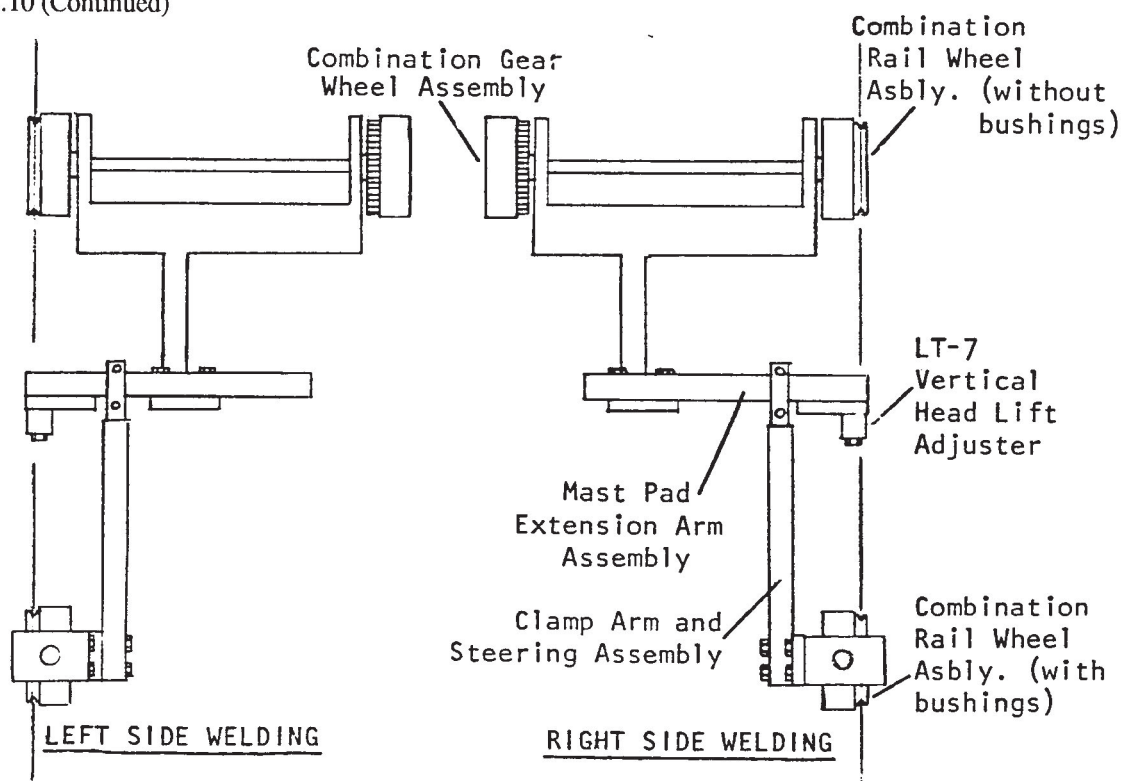

Figure 1
- a. Rear Wheel Configuration (refer to Figure 1)
- b. Front Frame Configuration (refer to Figure 1)